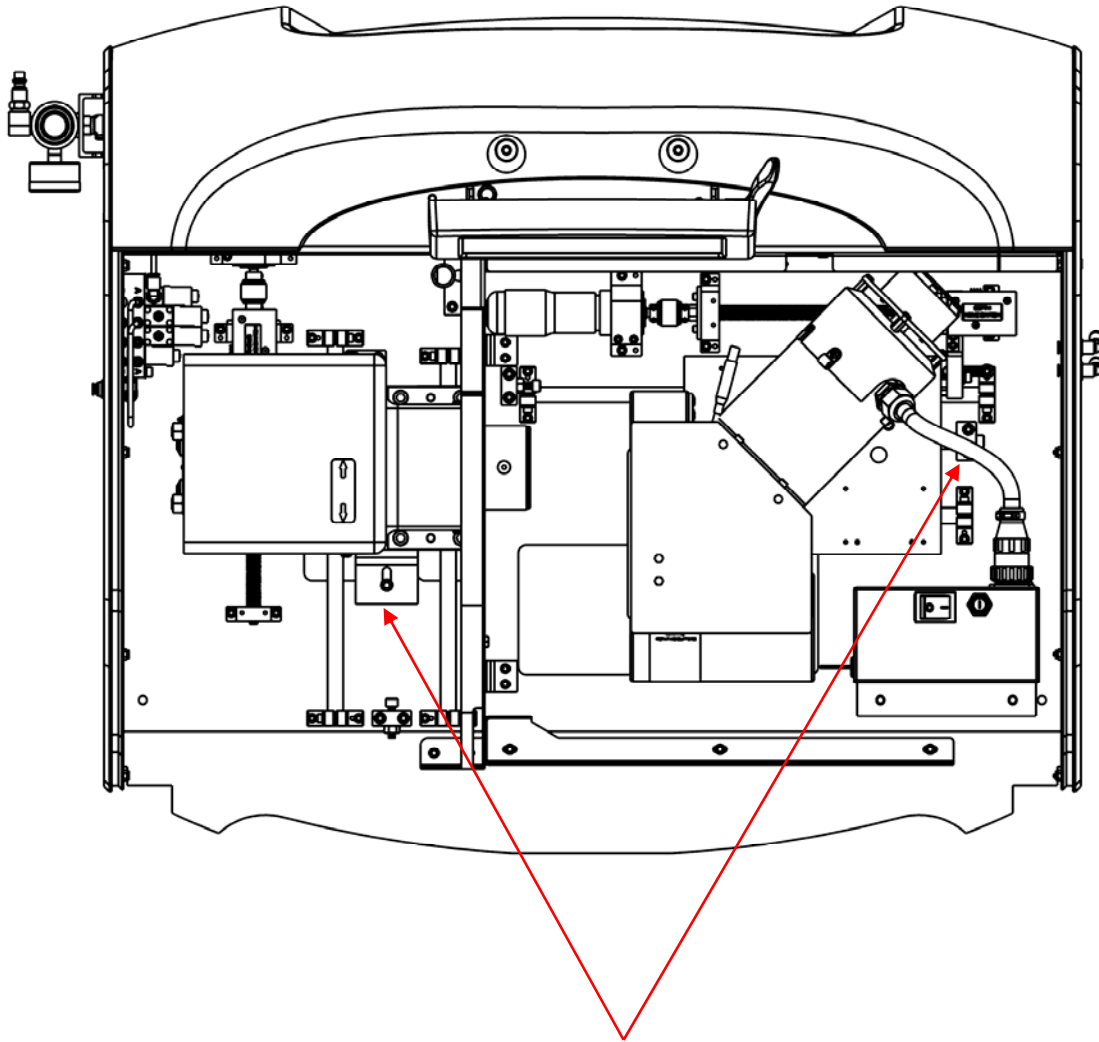

Figure 1.8: Locations of shipping restraints
5. See Figure 1.8 at the end of this chapter. Open the Axiom upper case by grasping beneath the lip in the front and lifting. Shipping restraints are marked with yellow tags. Remove these tags as the following steps are performed.
8. See Figure 1.8. Insert the end of the 2½" flex vacuum hose into the coupler on the bottom of the generator from below the bench. This connects the hose to the chip chute. Maintaining a gentle curve between the chip chute and vacuum, connect the other end of the 2½" hose to the vacuum inlet. The vacuum inlet is the lower hole in the vacuum canister.